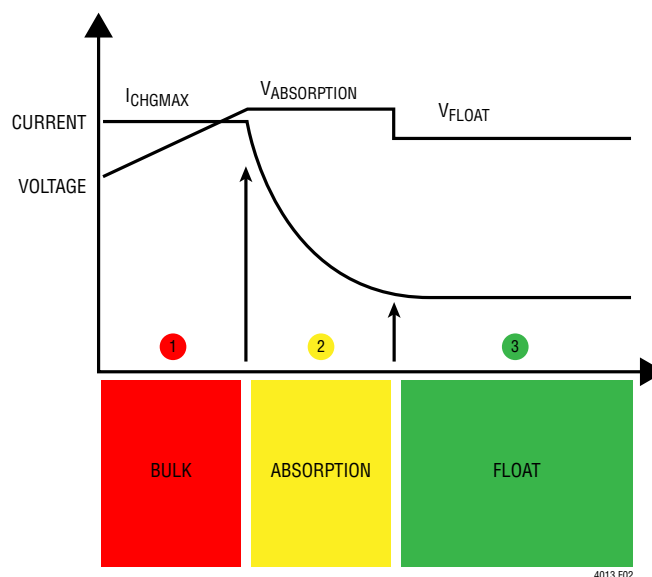

Figure 2. 3-Stage Charge Cycle
The most popular charging method is called 3-stage charging cycle (see Figure 2). In this method the battery is initially charged with a constant current (CC) until the battery voltage achieves the absorption voltage. This helps to increase the amount of stored charge in the battery. Because the voltage is above the electrochemical float level, the time that the battery stays in this condition is usually limited, either by a timer (the safest method) or just waiting for the charge current to diminish. After absorption is complete the charger voltage drops back to the float voltage. Minor gassing of water from the battery can occur from charging the battery above the float voltage, so choosing an appropriate absorption voltage is important for best battery life. Always consult the battery manufacturer for their recommendations.